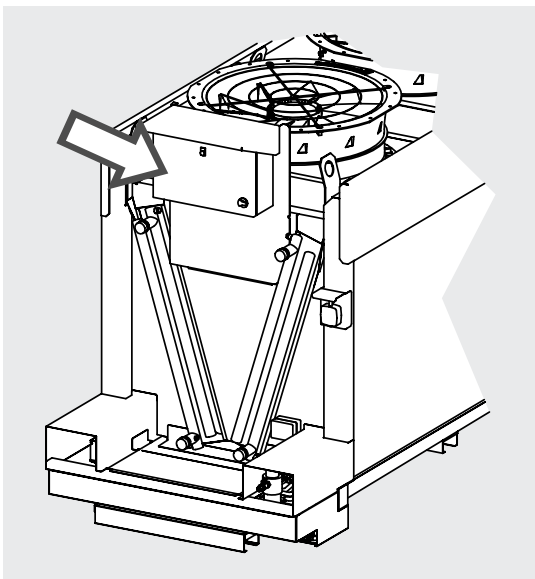

Figure 13
- 8.1 For detailed information, please refer to the switchboard wiring diagram and any other diagrams supplied with the model. See Figure 13.